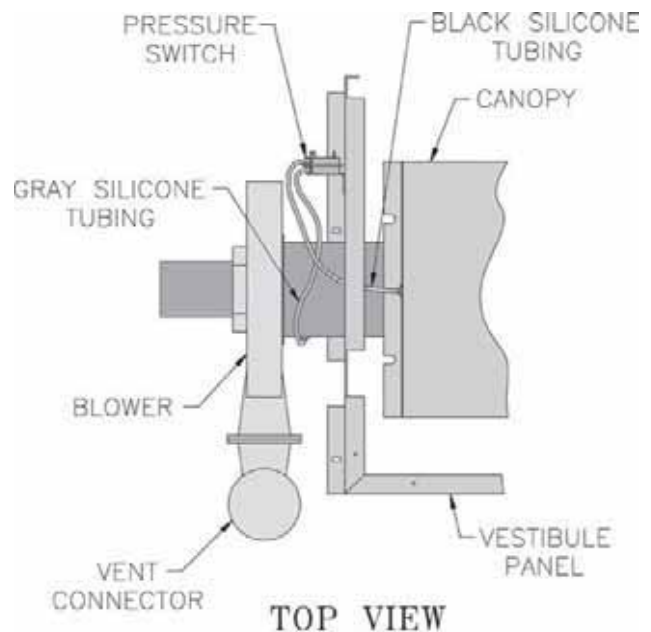

Figure 51: Silicone Tubing Assembly
10. Connect Silicone Tubing between Pressure Fittings on Canopy Assembly and Pressure Switch. Route through bushings in Vestibule Panel. See Figure 51.
4. Stop boiler, remove manometer and reconnect hoses to differential pressure switch. See Figures 51 and 54.